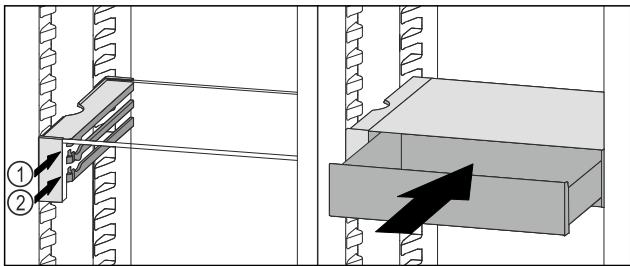

Fig. 76
- ▶ Place the VarioSafe drawer behind the stoppers on desired rib Fig. 76 (1) or Fig. 76 (2).